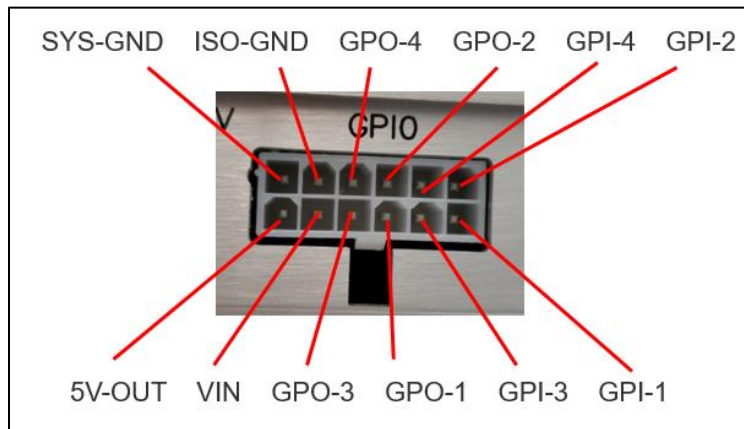

Figure 12: GPIO connector
4. The Local Area Connection Status window appears, as shown in Figure 12.